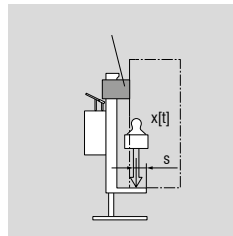

Abb. 11.1.3 Distanzblock
- For load resting on the claw the load must always contact the shaft of the jack. If this is not possible, the spacer block (supplied) must be used to minimise the bending stress of the pillar (Fig. 11.1.3).
- For correct use, insert the spacer block to the hydraulic jack as in Fig. 11.1.3. The spacer block can be used for two different spacing options. These are labelled with arrows. Adjust the spacings by rotating the spacer block. The arrow must be aligned vertically to the load throughout. Remove the spacer block if it is not required during the application because the load is contacting the jack shaft.